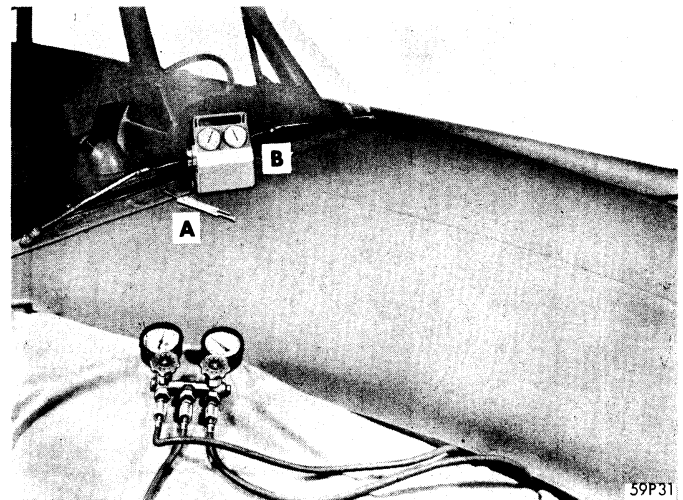
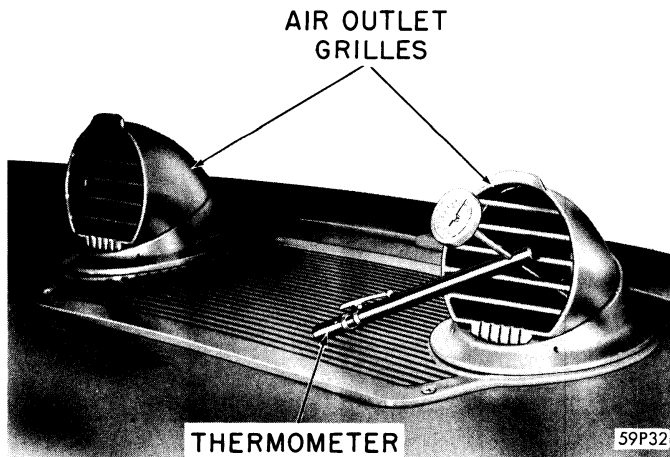

Figure 13—Manifold gauge, hood lowered
Figure 14—Thermometer in outlet grille
Arrange the gauge set manifold hoses and tachometer leads to allow the hood to be lowered and close the hood, Figure 13. Place a thermometer in the instrument panel right hand outlet grille, Figure 14.
capacity and replace valve plate assemblies, if necessary. If a motor driven psychrometer (B) is available, Figure 13, place it near the inlet grille as shown at B.